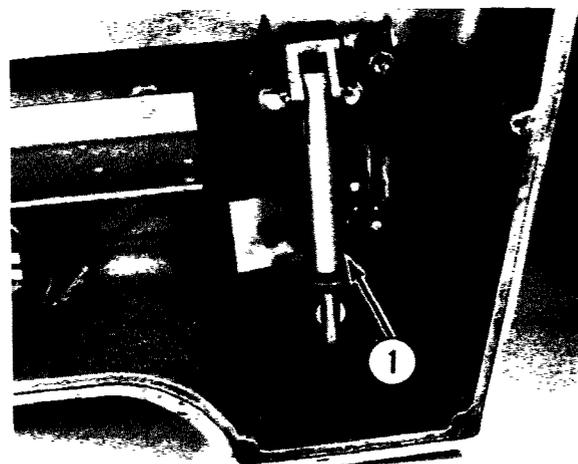

Fig. 3-13
- B. With the interlock bar pin in the full locked position, the switch arm (1, Fig. 3-13) should not be bottomed against the switch.